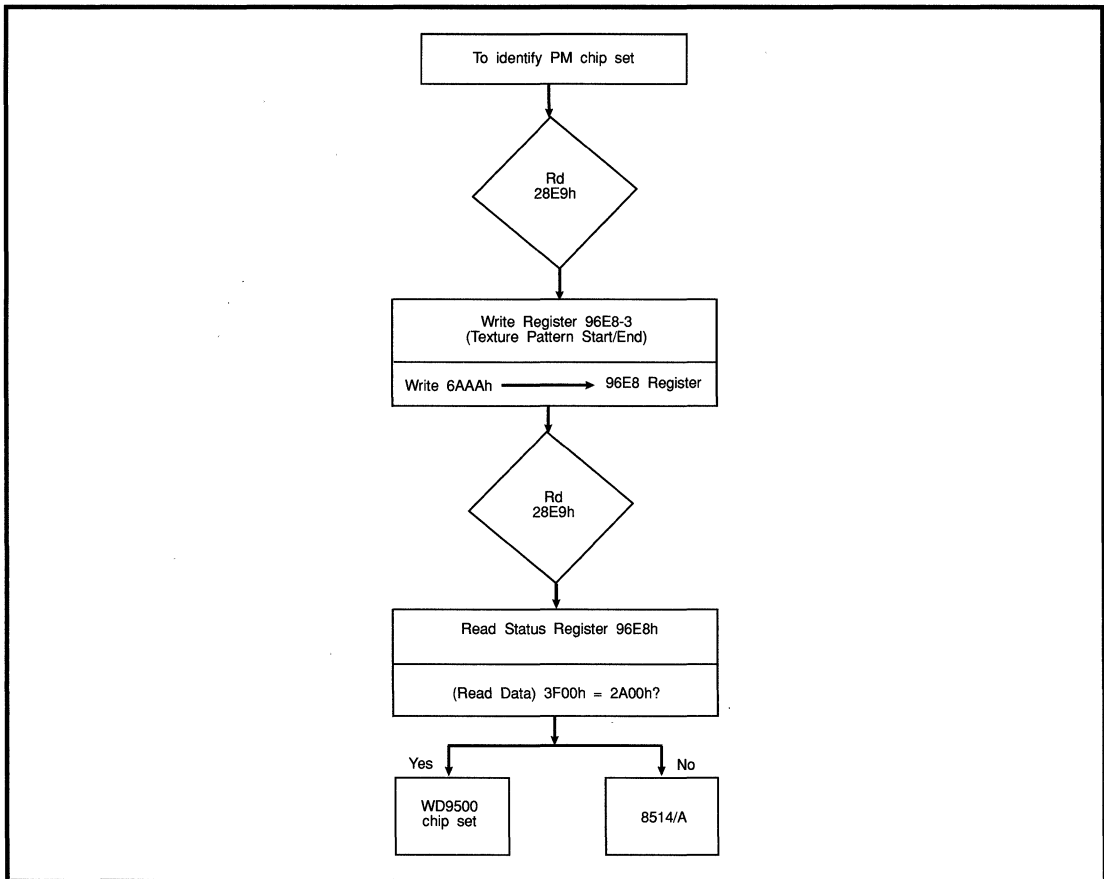

FIGURE 5. METHOD OF IDENTIFYING WD9500 CHIP SET
Extended Register Operation To identify the WD9500 chip set, see Figure 5. To escape to Western Digital Enhanced Mode, the AI should execute a byte read of I/O address 28E9h. (The purpose of the byte read is to perform the escape; the WD9500 does not return any data). This operation is a no-op for the IBM 8514/A since it involves a write-only register, which furthermore does not respond to any access to an odd-numbered byte address. This operation will tag the next register access through a special bit in the FIFO. FIFO is fully functional in Western Digital Enhanced Mode. After escaping to Western Digital Enhanced Mode, the WD9500 will automatically reset itself back to 8514/A emulation mode in one of these four circumstances:
3. If, as its next board access immediately after an escape, the AI writes to either I/O address 82E8(register name in 8514/A Emulation Mode: Copy Y Destination/Incr 1 Register). Figure 5. Method of Identifying WD9500 Chip Set.